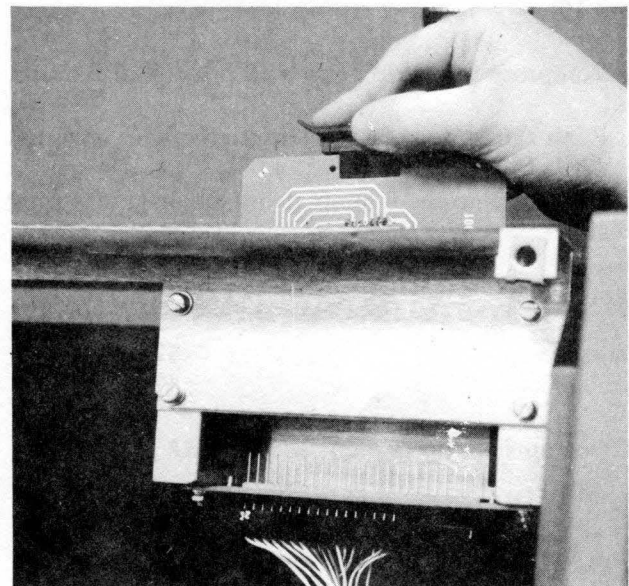

Figure 3-20 Repair of Width Card Connector
- Check connector pins (Figure 3-20). If a pin is bent or broken, remove bottom connector, then pull the defective pin-group up through the top and insert new pin group. Note that pins are molded in groups of four with plastic. Reconnect bottom connector.